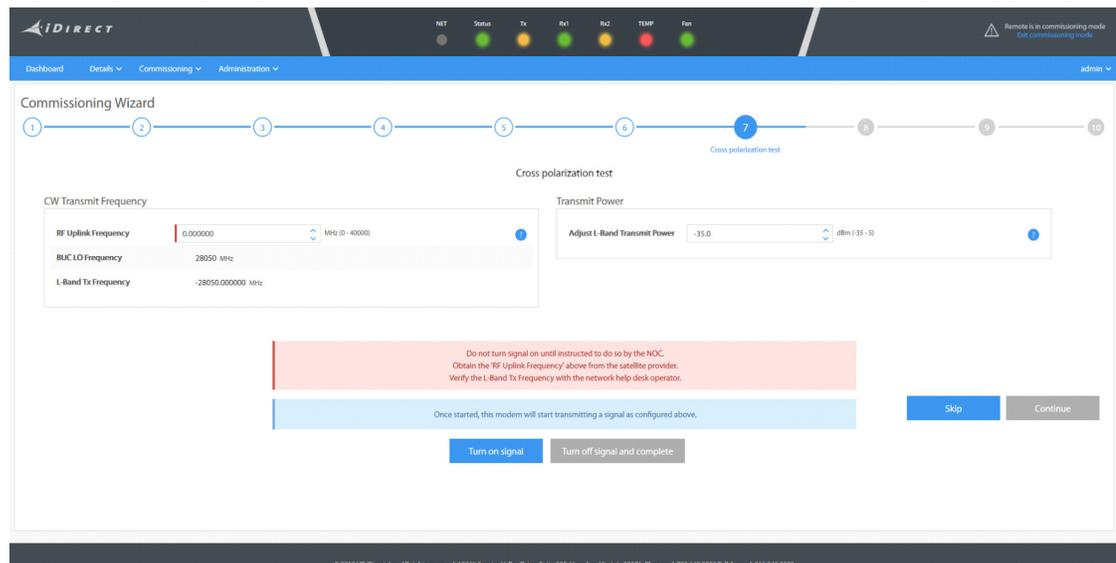

Figure 3-12. Cross Polarization test
1. On the Terminal WUI, click **Commissioning > Commissioning Wizard**. On the **Cross Polarization** test page (see Figure 3-12), under **CW Transmit Frequency**, enter the **RF Uplink Frequency**. The **BUC LO** and **L-Band Tx Frequency** are automatically displayed.